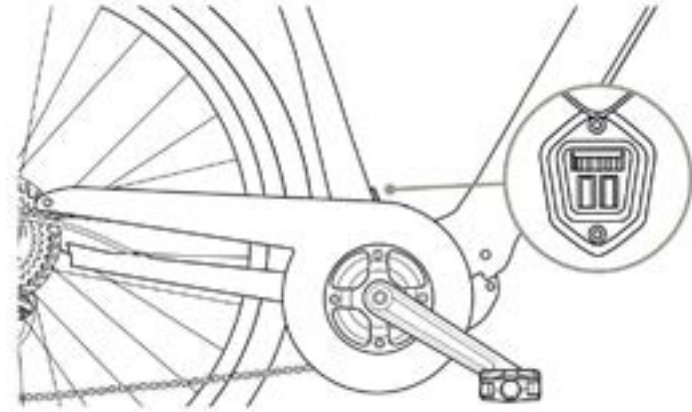

FIG. 12
- The first by connecting the battery charger directly to the frame via the appropriate socket located on the left side of the saddle tube (Fig. 12).